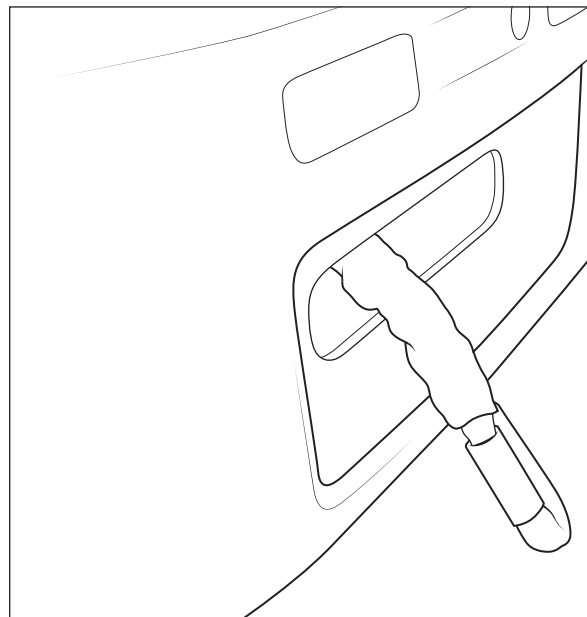

Figure 4
7. Feed the winch cord through the face of the stamping (fig. 4).